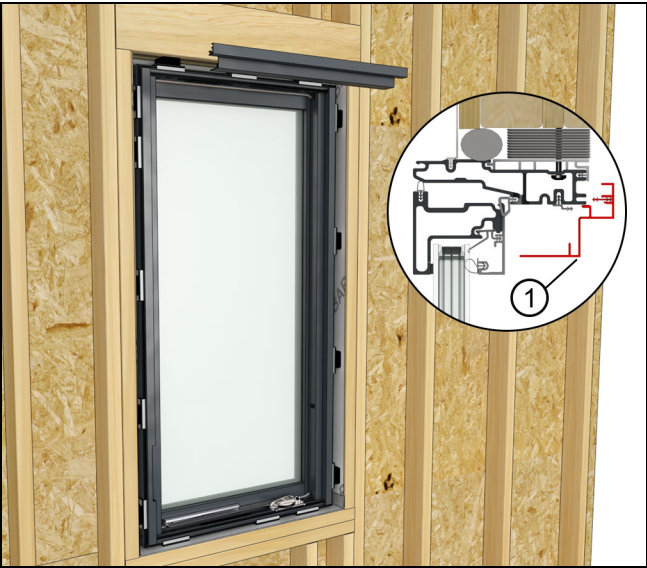

Figure 33
- 2. Remove the head jamb cover. See Figure 33.